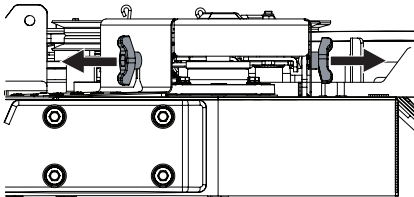

Figure 48
2. Remove the wing knobs securing the belt covers to the deck (Figure 48).